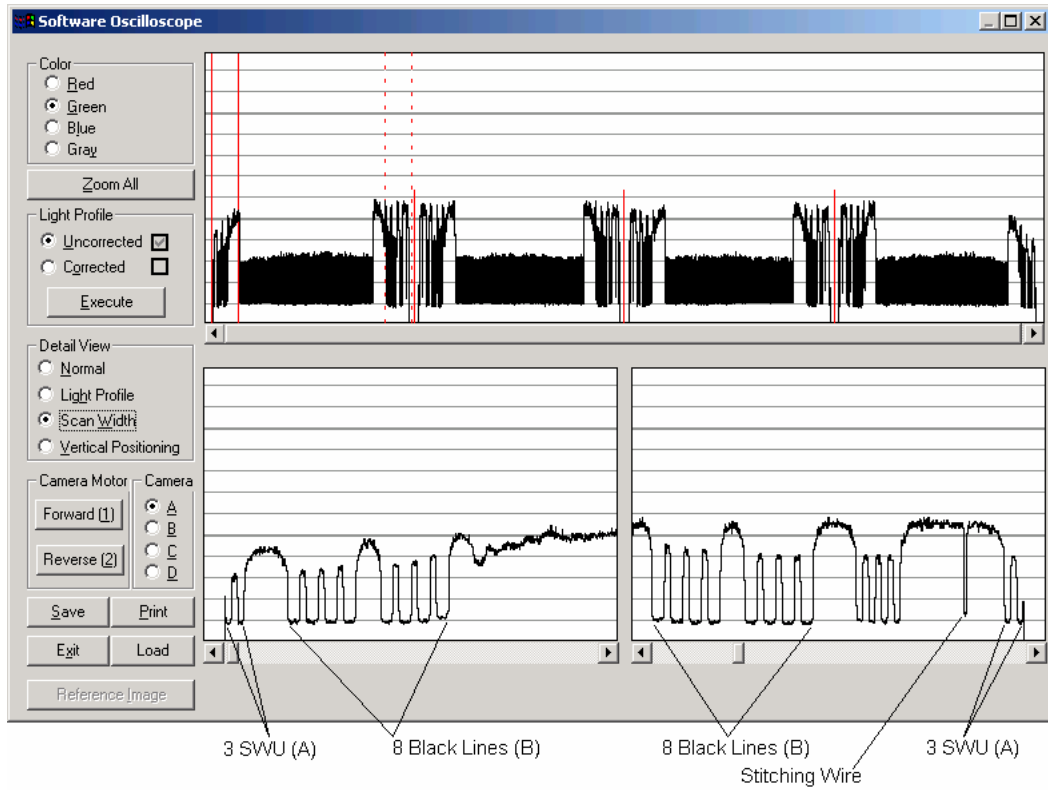

Fig. 4-26 MAGNUM XL 54, Scan-Width, Camera A
- Fig. 4-26 MAGNUM XL 54, Scan-Width (A), page 106